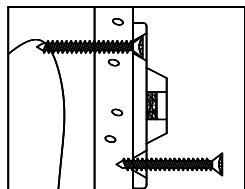

Figure 1
- 2) MOUNTING THE WALL-SIDE BRACKET:** Position the wall-side bracket along the selected stud mark so that it will be adjacent the furniture-side bracket when the furniture item is moved to its final position. The wall-side bracket should be about ONE inch lower than the furniture-side bracket (See Figure 3). Use the TWO long screws to secure the wall-side bracket to the wall. Remember to position the wall-side bracket vertically so that both screws will engage the selected wall stud (See Figure 1).